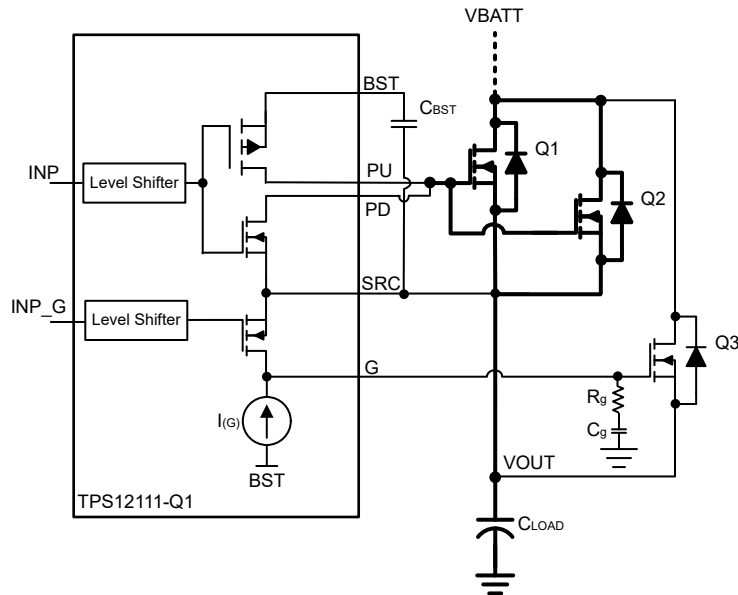

図 8-7. Capacitor Charging Using Gate Slew Rate Control of Precharge FET
The TPS1211-Q1 integrates precharge gate driver (G) with a dedicated control input (INP_G). This feature can be used to drive a separate FET that can be used to precharge the capacitive load. 図 8-7 shows the precharge FET implementation for capacitive load charging using TPS1211-Q1. An external capacitor C_g reduces the gate turn-ON slew rate and controls the inrush current.